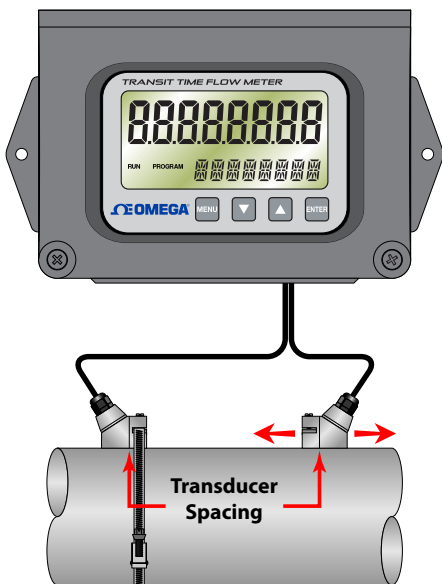

Figure 13: Transducer positioning
2. Place the downstream transducer on the pipe at the calculated transducer spacing. See *Figure 13 on page 20*. Apply firm hand pressure. If signal strength is greater than five, secure the transducer at this location. If the signal strength is not five or greater, using firm hand pressure slowly move the transducer both towards and away from the upstream transducer while observing signal strength.